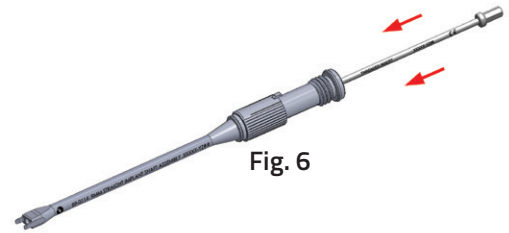

Fig. 6
1. Hold the Inserter Shaft so that the prongs are pointed toward the floor, and carefully insert the Threaded Insert, threaded tip first, into the open hole proximal to the ribbed collar on the Inserter Shaft. **(Fig. 6)**